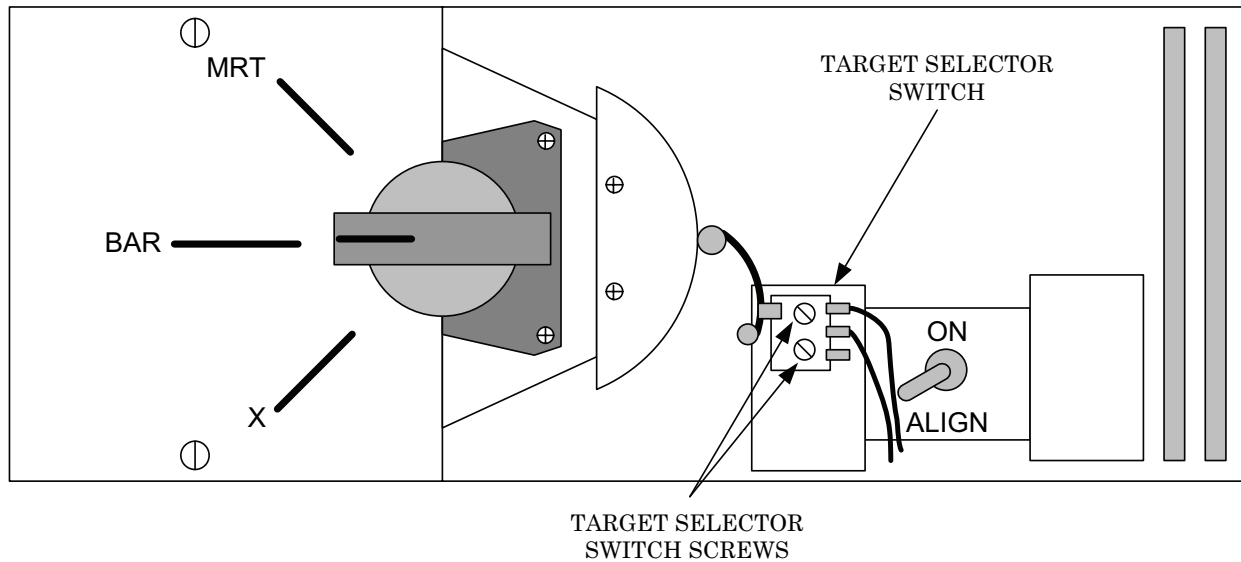

Figure 7. Loosening target selector switch mount. (ON/ALIGN switch is shown for clarity only).
(7) Loosen **TARGET SELECTOR SWITCH** screws and move **TARGET SELECTOR SWITCH** back to disengage contacts (fig. 7).
- b. Remove TI large cover plate (fig. 2), place **TARGET SELECTOR SWITCH** back in original position and tighten **TARGET SELECTOR SWITCH** screws (fig. 7).